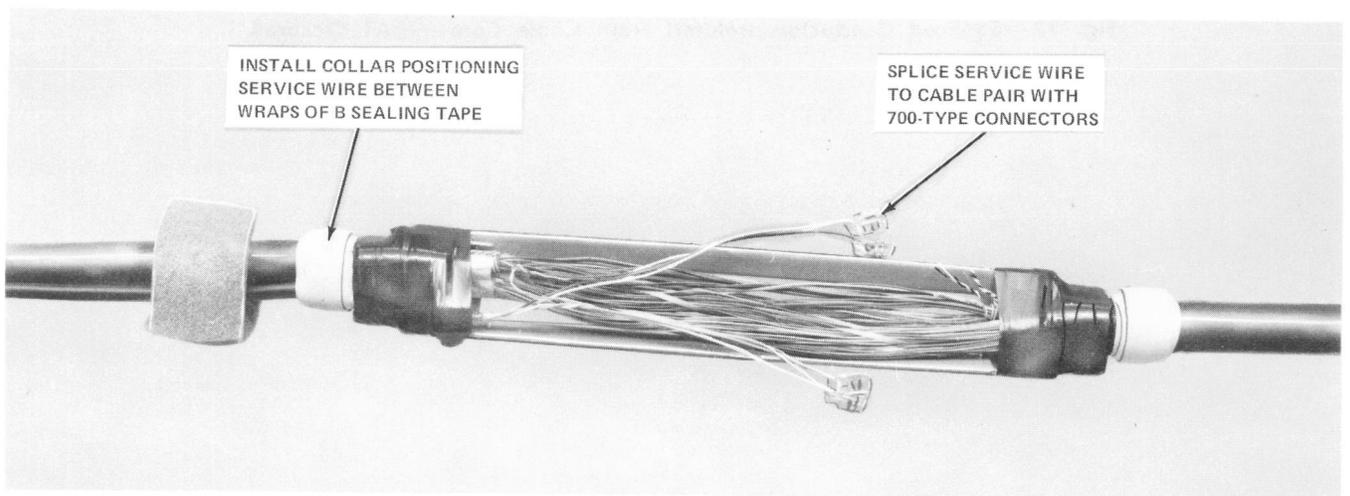

Fig. 11—▶Service Wire Conductors Spliced to Cable Pairs—16A1 Closure◀
5.03 Splice the service wire to the cable pairs using 700-type connectors *only* as shown in Fig. 11.